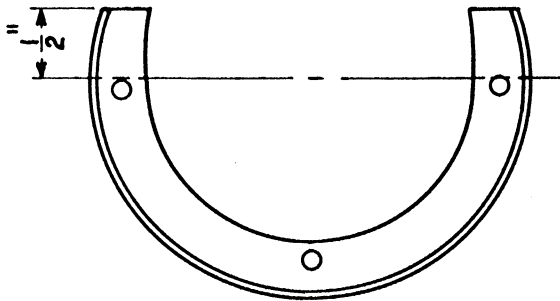

Fig. 20 — Modified 59A Dial Adapter
3.06 When a 6-type dial is used as a replacement and where a 59A dial adapter is present, it may be necessary to alter the dial adapter to provide clearance without binding between the plastic cover on the 6-type dial and the dial adapter. This may be accomplished by cutting the adapter to the approximate dimensions shown in Fig. 20. If this is done, the adapter may be used interchangeably with 5- or 6-type dials.